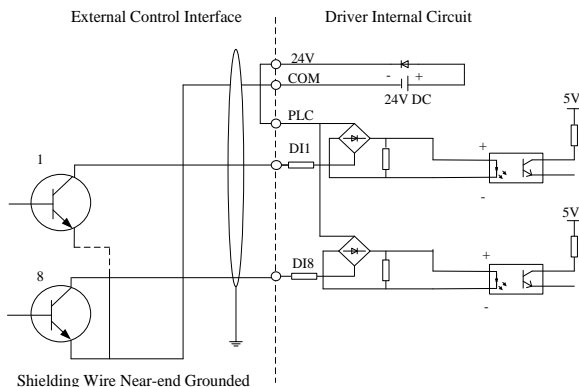

Fig. 2-3 Connection Mode Using a +24V Internal Power Supply of the Driver
1) Connection mode using a +24V power supply inside the driver, and adopting an NPN-typed output external controller is as shown in Fig. 2-3.